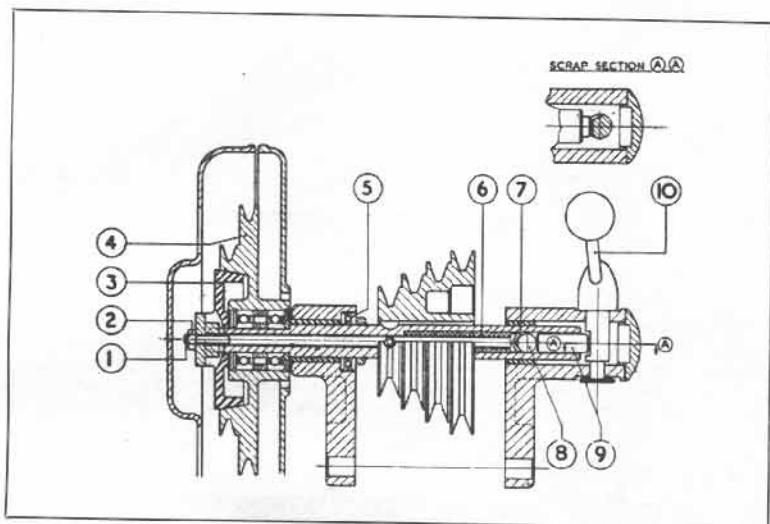

Fig. 37. Showing countershaft clutch layout.
Reference to Figure 37 will show that the countershaft clutch consists of a coned metal driving member, the clutchplate (3) which is tenoned into the end of the countershaft, and normally held in engagement with the tapered cone of the pulley (4) by a compression spring (6) which is inserted into the hollow countershaft (7) between the shoulder (6) which is inserted into the hollow of the push rod (1).